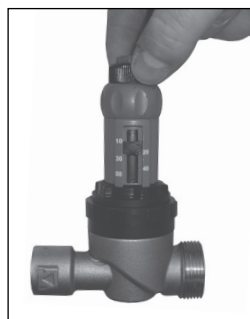

Figure 2
1. Turn the green locknut counter clockwise to loosen (figure 2).